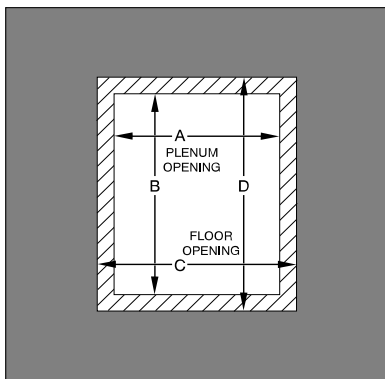

Fig. 11 – Floor and Plenum Opening Dimensions
2. Construct hole in floor (see Table 4 and Fig. 11).
3. Construct plenum to dimensions specified (see Table 4 and Fig. 11).